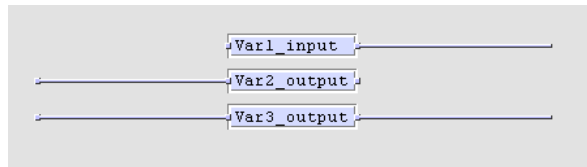

Figure 74: Direction of global variables
- The direction of the variable is determined based on the graphical representation, shown in Figure 74.